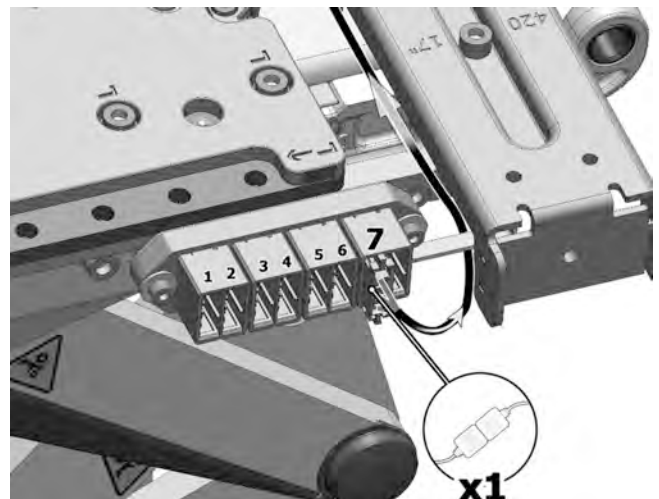

Figure 177. The ICS bus cable is connected to the seventh position of the connector block.
6. Disconnect the cable that connects the ISC Master Module to the contact block at the seat frame. See fig. 177. Release the cable from its cable brackets on the seat frame and AP-Elevator. Make note of how the cables are assembled on the seat frame with consideration to subsequent assembling. See *Rnet and ICS bus cable mounting*, Page 81.